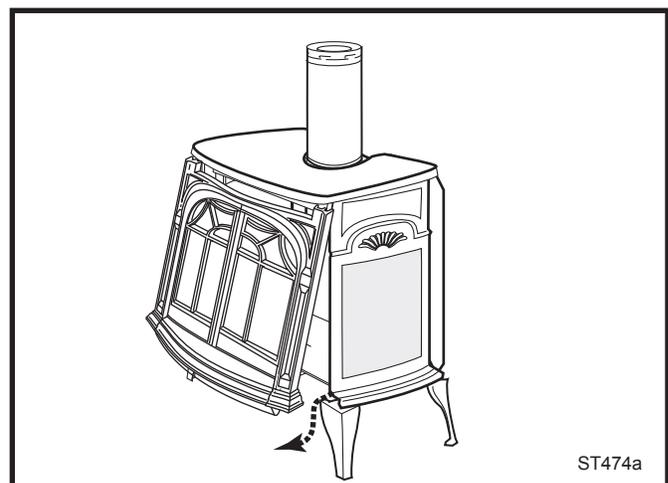

Fig. 83 Remove the stove front.
2. Lift the Stove Front up and then swing the bottom out to disengage it from the heater shell. (Fig. 83)
Replace glass only with MHSC approved parts. Refer to Page 44 for Replacement Parts. Refer to Figures 83 & 84 for removal of the damaged glass frame.
1. Remove the Front, Glass Frame and Glass Panel. (Figs. 83 & 84) Remove the old gasket. Use a razor blade to separate the glass and gasket from the frame, and to clean the glass of any remaining cement or bits of gasket. Use a cold chisel if necessary.